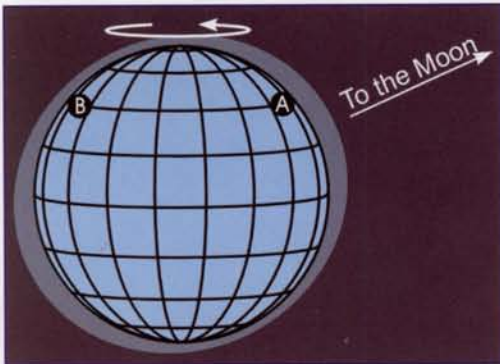

Fig 67
25° south of it (Fig 67). Someone anchored at a latitude of about 40°N on our hypothetical water-covered world would be quite close to the peak of one bulge (A), but the other bulge (B) would pass nearly 4000 miles to the south of him, so it would be barely noticeable. In other words, he'd see, only one big High Water per day.